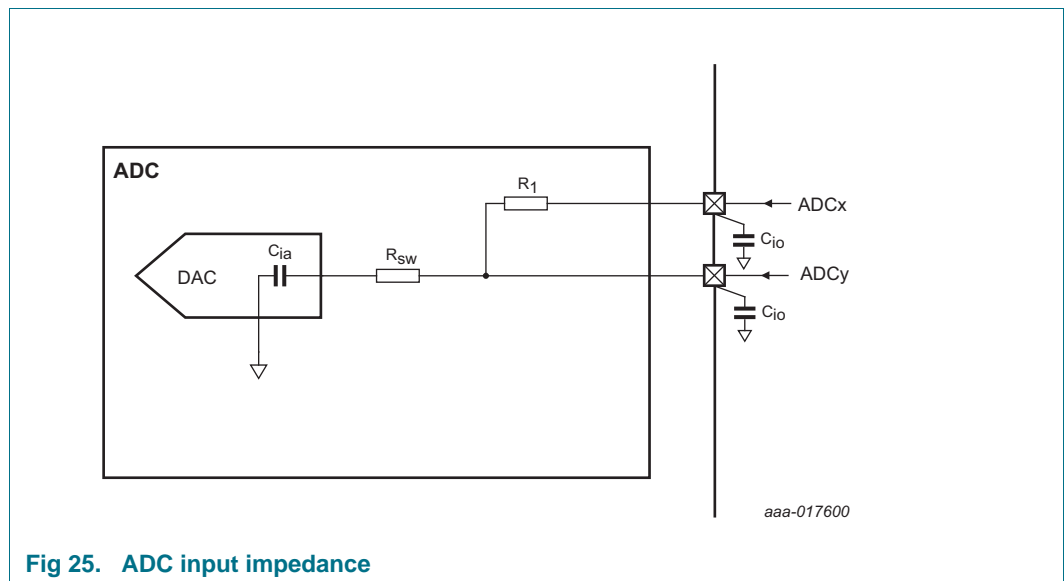

Fig 25. ADC input impedance
- [10] Input impedance Z_i is inversely proportional to the sampling frequency and the total input capacity including C_{ia} and C_{io} : $Z_i \propto 1 / (f_s \times C_i)$. See Table 16 for C_{io} . See Figure 25.
- (1) Example of an actual transfer curve.
- (2) The ideal transfer curve.
- (3) Differential linearity error (E_D).
- (4) Integral non-linearity ($E_{L(adj)}$).
- (5) Center of a step of the actual transfer curve.
Figure 25 shows the ADC input impedance. In this figure: